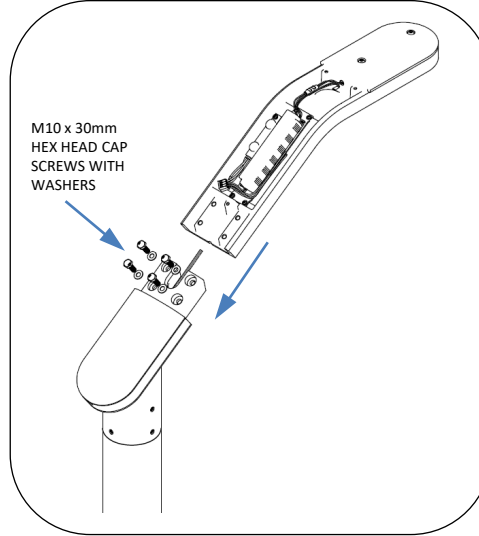
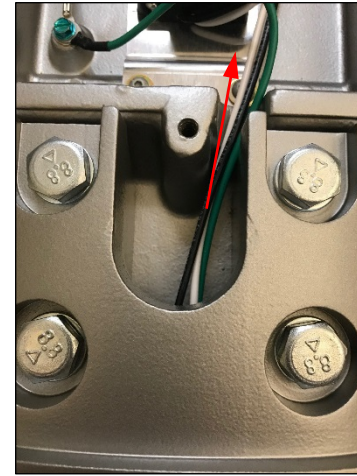

Fig. 6 – Attach luminaire
Fig. 7 – Route electrical supply wires
5. Attach luminaire to mounting bracket using (4) M10 x 30mm hex head bolts and 3/8" washers. Ensure wires are routed through the relief in the luminaire housing and are not pinched. See Fig. 6 and Fig. 7.
6. Connect line voltage wires to driver. See Fig. 7. Take precautions to provide strain relief on supply wires.
5. Connect line voltage wires to driver. See Fig. 7. Take precautions to provide strain relief on supply wires.